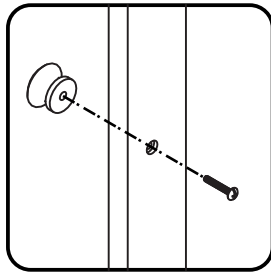

Figure 6
Attach Knobs to Doors (M) and (N) with Machine Screws. (See Figure 6)